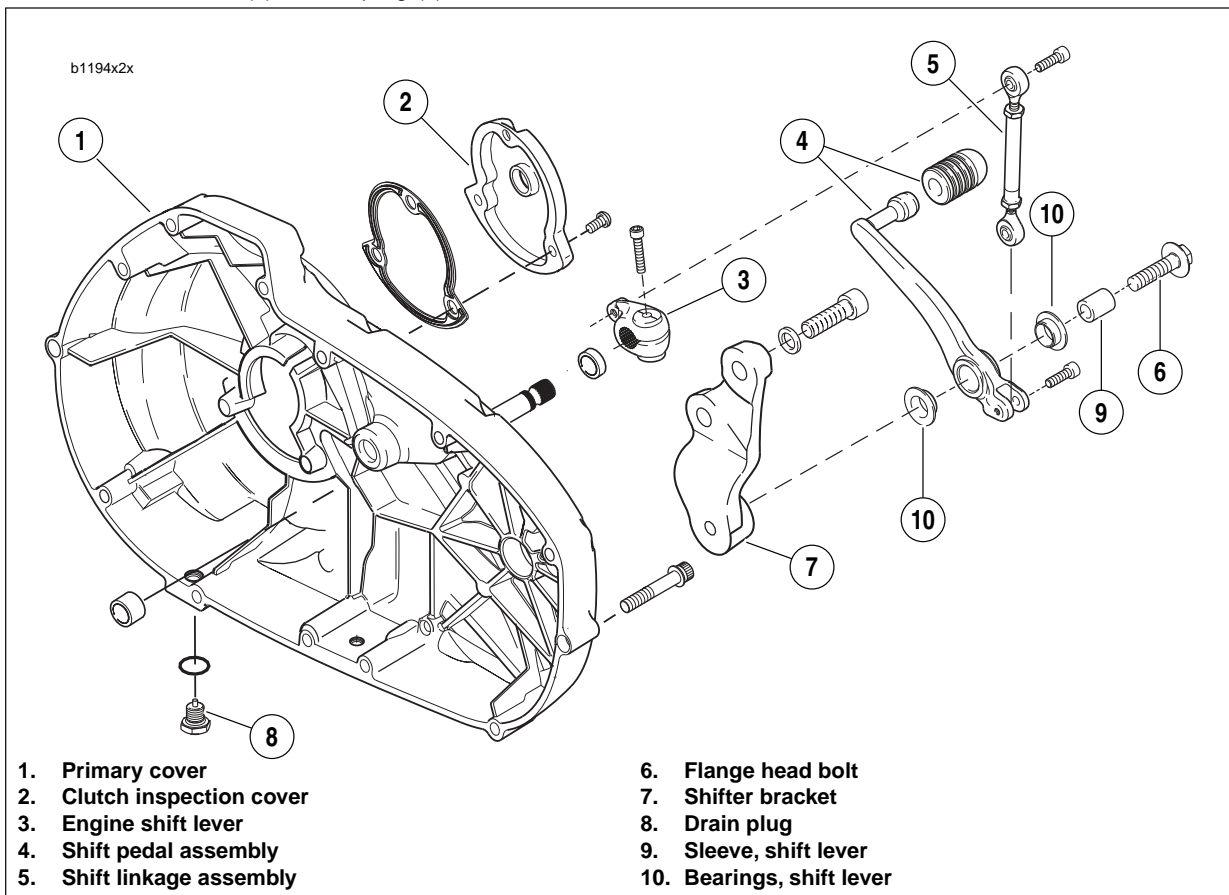
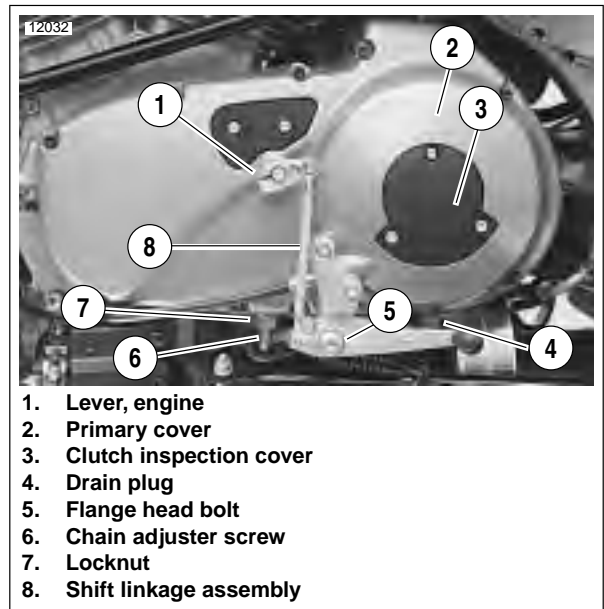

Figure 2-101. Shifter Linkage
Figure 2-104. Installing Shift Linkage
12. See **Figure 2-101**. Remove clutch inspection cover (2).
- a. Remove flange bolt (6) from primary cover.
- b. Remove engine shift lever assembly (3). Do not scratch primary cover.
4. See Figure 2-104. Install rubber washer and shift lever assembly (1).
5. See Figure 2-101. Install (10) bearings and (9) sleeve into the shift lever.
6. After applying LOCTITE 271 (red), install flange bolt (5) and shift pedal to primary cover, and tighten to 22-24 ft-lbs (30-32.5Nm).
8. See Figure 2-104. If the shift linkage assembly (8) was removed for any reason, apply Loctite 271 to fasteners and tighten to 36-60 **in-lbs** (4-6.8 Nm). Adjust to rider comfort.
14. See Figure 2-101. Install clutch inspection cover (2) with three TORX screws with washers. Tighten screws in a crosswise pattern to 84-108 **in-lbs** (9.5-12.2 Nm).